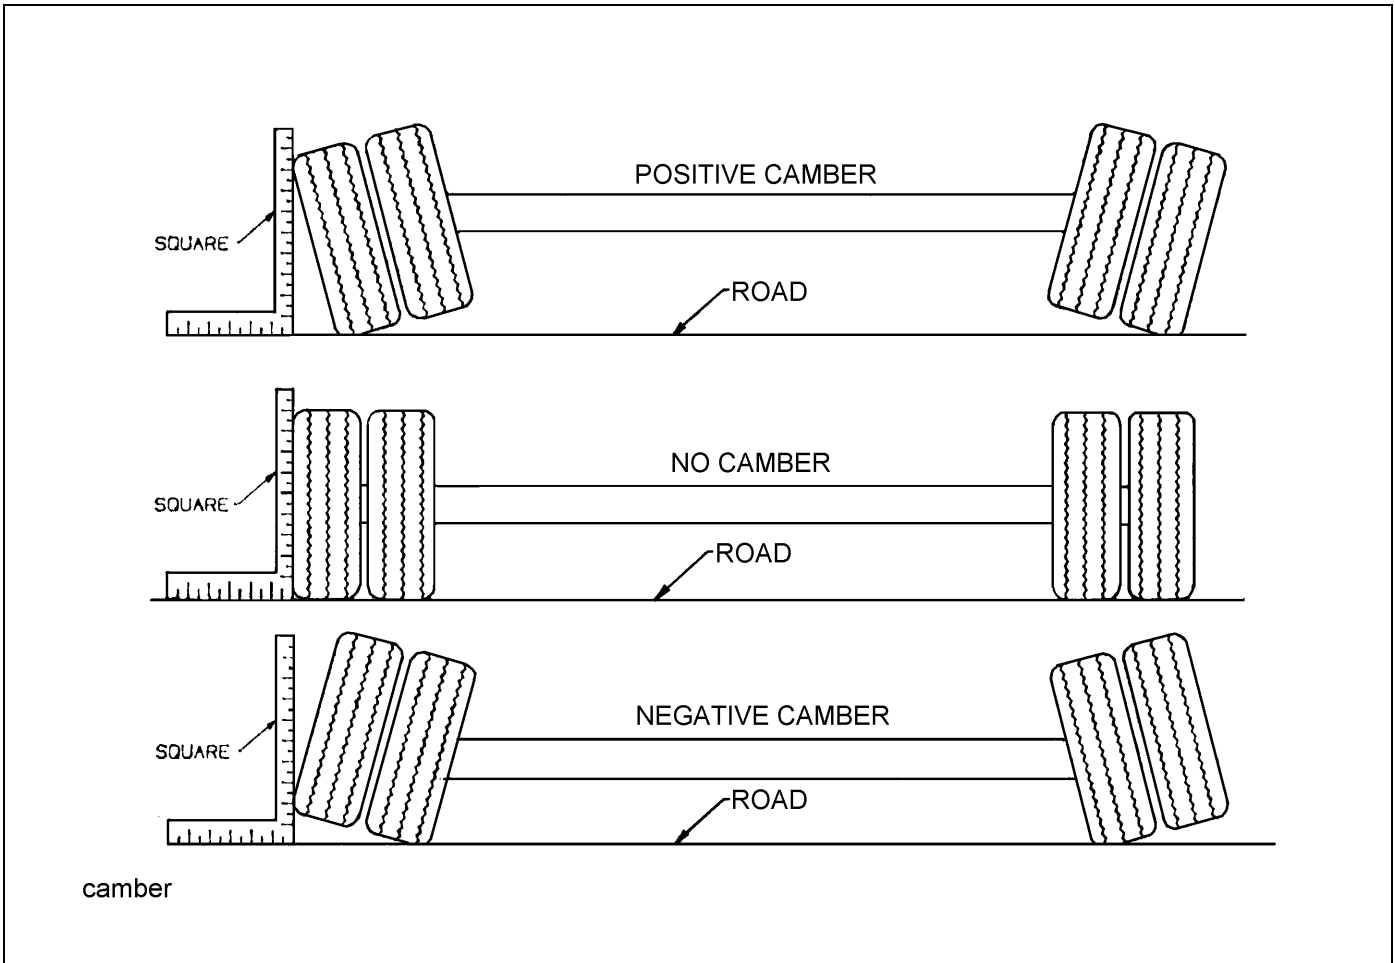

Figure 4-5: Examples of Camber
4. Follow the same procedures as in **steps 2 and 3**, except place the axle gauge above and below the axle. If gauge point gap is found, the axle has positive or negative camber. The trailer axle has no camber from the factory. If it is found to have positive or negative camber, axle replacement is necessary **(See Figure 4-5** for examples of camber).